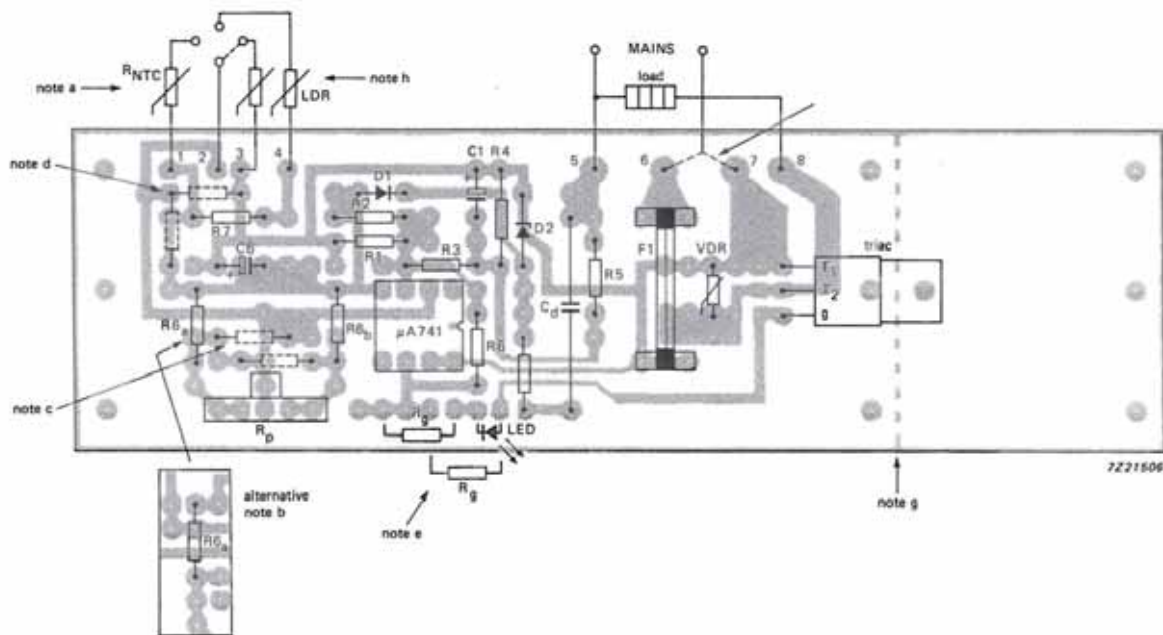

Fig. 2 Printed circuit board for thermo-switch application.
Figure 2 shows a printed circuit board which has been developed to accommodate many different circuit configurations, including thermo- and light-switches.
- b) There are four position options for R6. In Fig. 2 R6 is mounted for a cooling circuit application. By placing R6 in the alternative position the circuit can be used for a heater. R6 can also be placed to the left or right of the potentiometer, either of these positions will determine the potentiometer's shaft orientation e.g. with R6 in position R6a, turning the potentiometer's shaft to the left corresponds to a higher temperature setting.